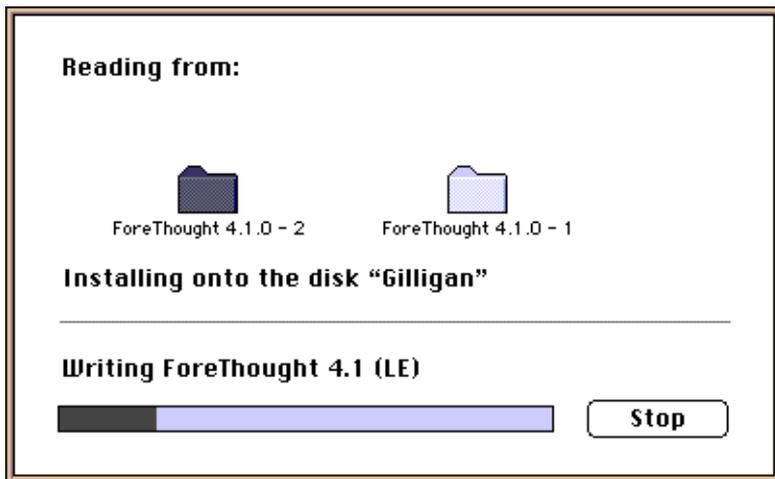

Figure 3.4 - Installation In Progress Screen
6. Click **OK** to return to the Install FORE Software window. If you click **Continue**, an In Progress screen, shown in Figure 3.4 appears.